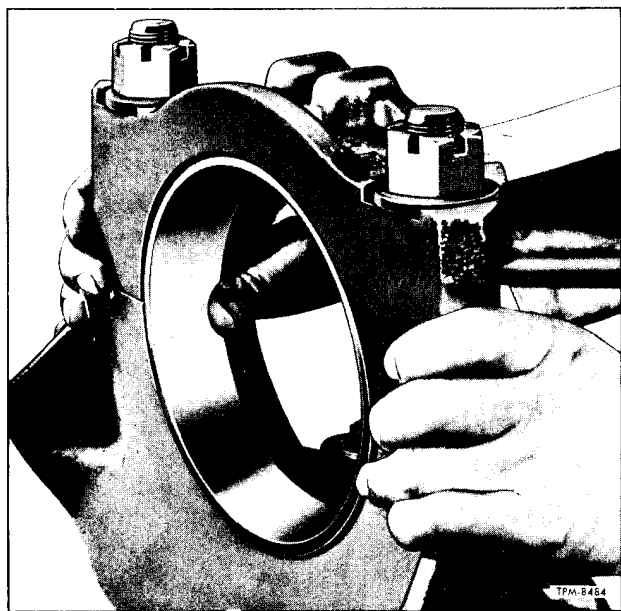

Figure 9—Checking Fit of Differential Bearing Cup
2. Bearing cup must be a hand push fit (fig. 9) in bore, otherwise the bore must be reworked with a scraper or emery cloth until proper fit is obtained. Location of high spots in carrier bore can be readily located by applying a light coating of prussian blue to bearing cup.
5. Place bearing cups (44) over bearing cones (43), then position differential assembly in differential carrier.